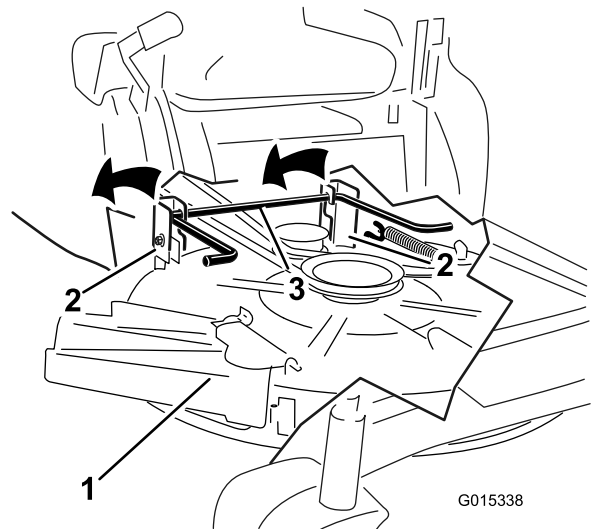

Figure 55
7. Lift the mower deck and hanger brackets clear of the rear lift rod, and lower the mower carefully to the ground (Figure 55).
5. Lift the rear of the mower deck and guide the hanger brackets over the rear lift rod (Figure 55).